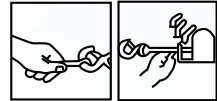

Figure 10
**Danger** Wear heavy leather gloves when handling dyneema winch rope. When handling the hook, always use handsaver (see Fig.10). Never put your fingers into the hook. Placing finger(s) in hook could result in injury.